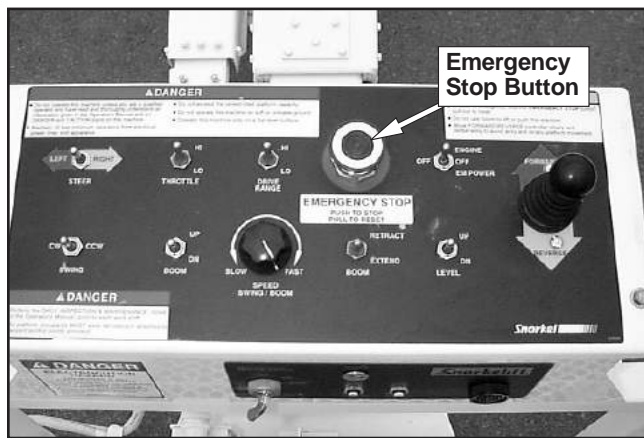

Figure 7.21—Upper Controls
3. At the upper controls (refer to Figure 7.21), pull the emergency stop button out.